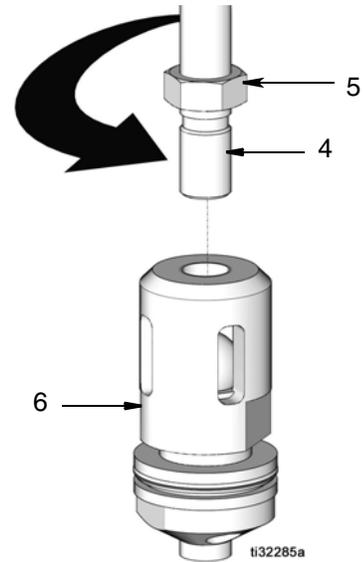

FIG. 10
- Loosen nut (5) and unscrew the valve housing (6) from connecting rod (4) (FIG. 10).